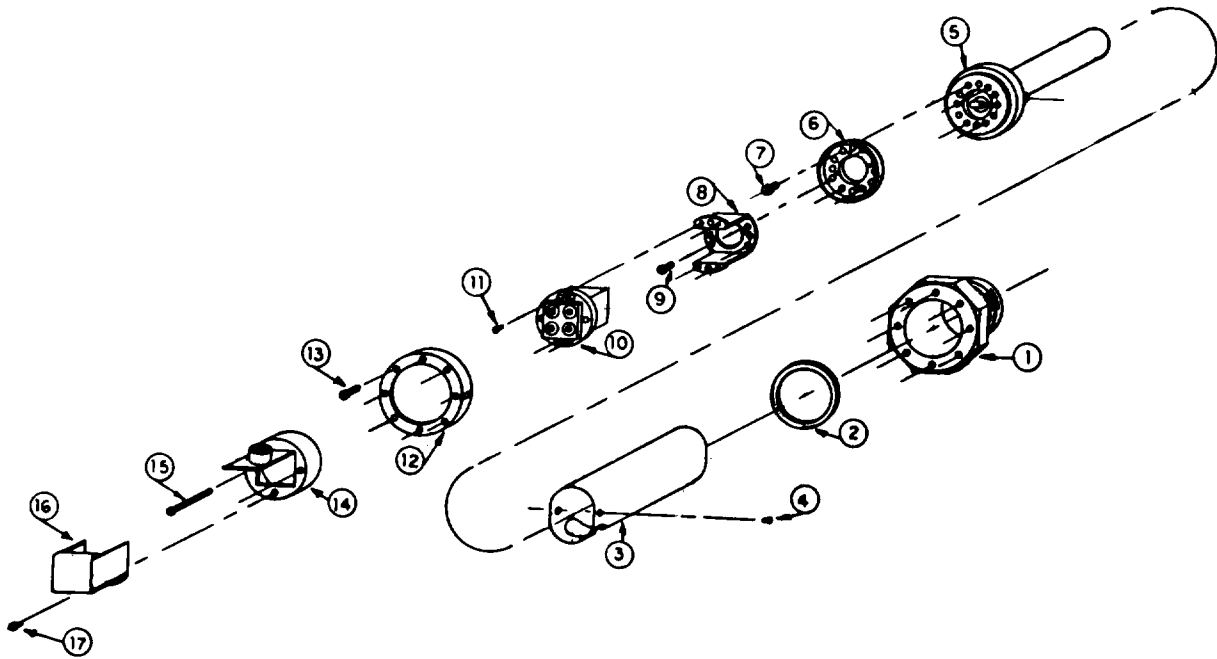

Figure 36. LOW LEVEL CONTROL
3. Replace any defective parts. Ref. Fig. 36.